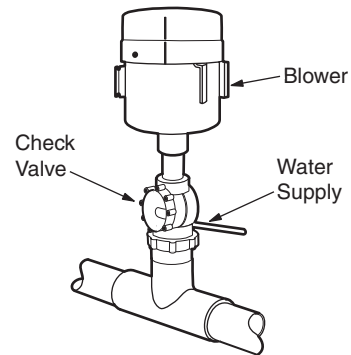

Figure 11. Blower Assembly Installed
5. Attach a blower assembly unit (blower, check valve, air/water supply and connectors; call Caretaker for assembly instructions) to the tee (see Figure 11). Turn on blower and water supply to fill the lines.